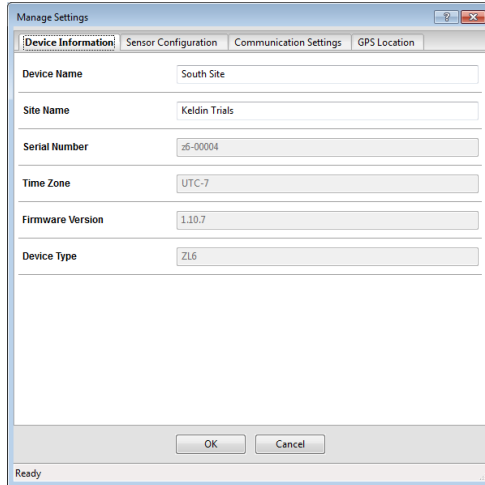

Figure 3 ZENTRA Utility Manage Settings dialog
- Click **Settings** (Figure 3).